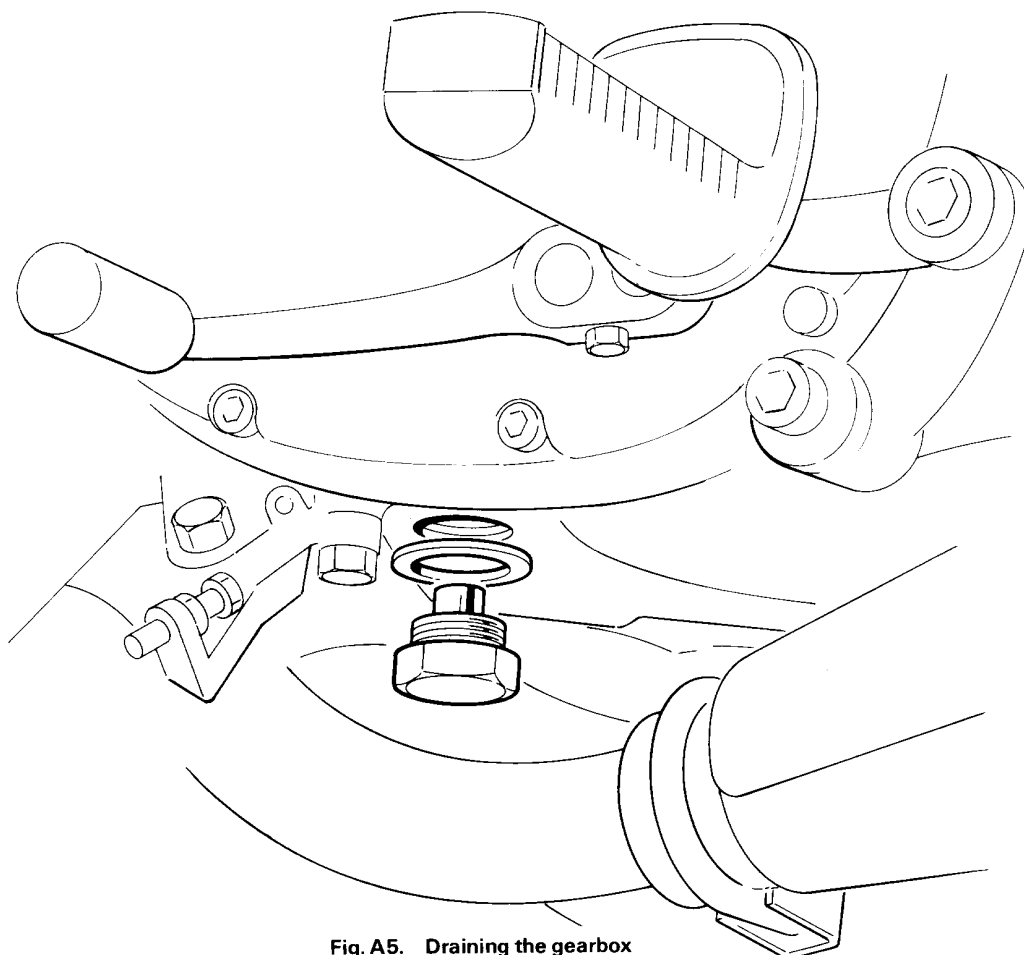

Fig. A5. Draining the gearbox
2. The oil can now be drained by removing a magnetic drain plug in the base of the gearbox. This plug should be inspected for any signs of debris or metallic particles adhering to it. (see Fig.A5).